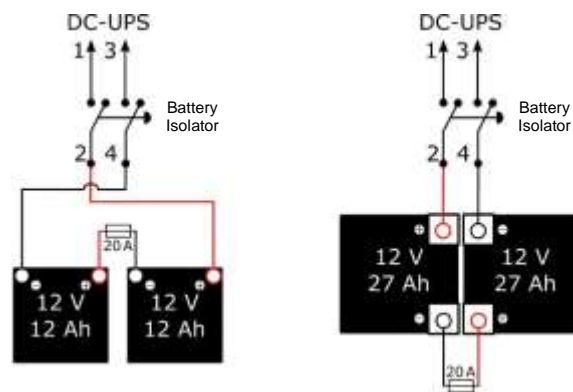

Figure 48. Battery Connections
1. Ensure that the Battery Isolator switch is correctly connected to the TPR DC-UPS and is switched **Off** (Fig 48).